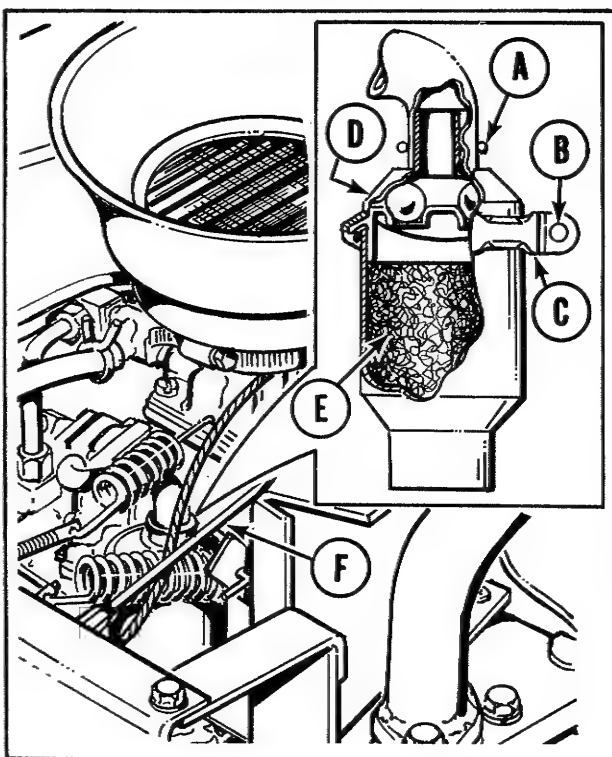

Figure 34. Crankcase breather valve and governor linkage located on top of engine.
CLEAN CRANKCASE BREATHER VALVE: See figure 34. The crankcase breather valve should be removed and cleaned every 200 hours or more often under dusty operating conditions. Proceed as follows:
1. Remove the hose clamp (A) and hose from the breather.
2. Turn the clamp screw (B) counter-clockwise to loosen the clamp.
3. Remove the clamp (C), breather cover (D), and breather filter mesh (E).
CLEAN GOVERNOR LINKAGE: See figure 34. Every 200 hours or more often under dusty operating conditions, the governor linkage (F) should be cleaned. Wait until the engine cools to work on the linkage. An air hose may be used